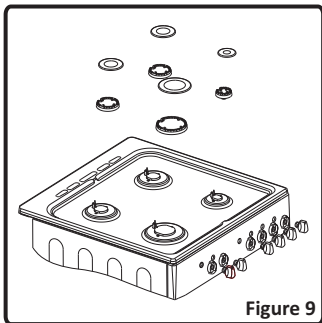

Figure 9
- Remove the burner cap and the adapter(Figure 9).